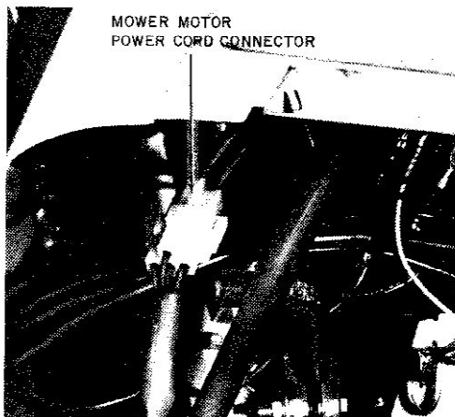

FIG. 19. Front Mower Suspension and Wiring
9. Join each mower motor power cord connector to its corresponding power cord coming out of the bottom of the frame. (See Fig. 19).